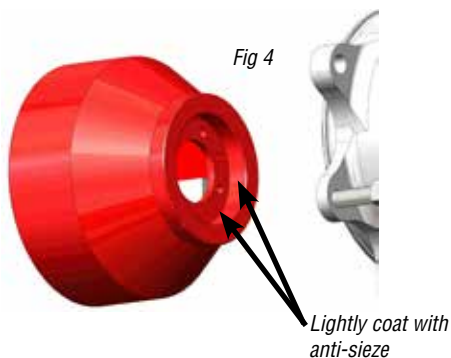

Fig 4
- Lightly coat the bore of the magnet hub (item 8A) with anti-seize paste. See figure 4. Using the two threaded studs, carefully slide the magnet hub onto the shaft adapter. It may be necessary to lightly tap, or use the supplied hex head bolts to pull the hub into position. Use the supplied (2) hex head bolts, (4) lock washers and (2) hex nuts (items 21, 22 & 23) to secure the magnets into position. Torque the bolts and nuts (M8) to 120 in-lbs (13.7 N-m).